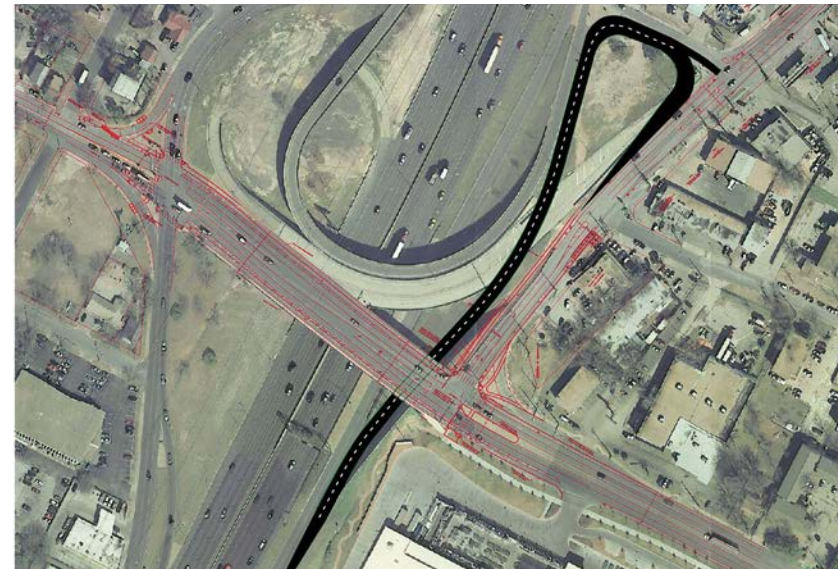

Figure 8:
- TxDOT is planning improvements at the IH 35 and 51st Street interchange, including: the enhancement of pedestrian and bike facilities on the 51st Street overcrossing of the freeway; and the construction of a new off-ramp beneath the bridge that will connect the IH 35 northbound service road to 53rd Street at Cameron Road providing more convenient and direct access from the freeway to Windsor Park (Figure 8).